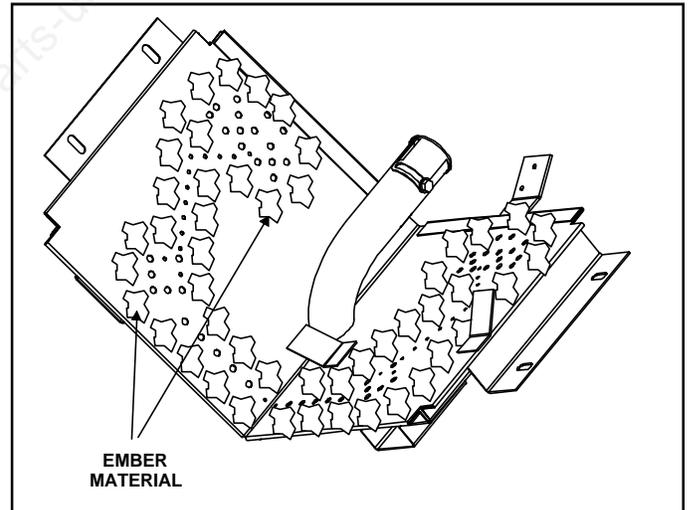

Figure 32. Placement of the ember material
- Place a dime size piece of mineral wool ember material near port holes in burner top. See Figure 32.